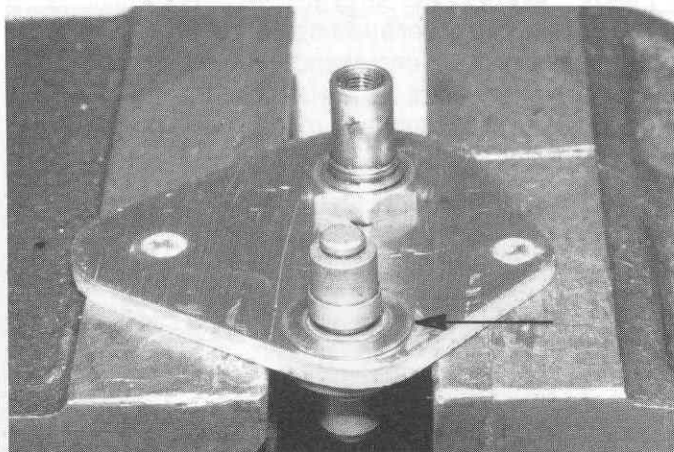

Fig. 33
□ **Fig. 33** Turn the plate over and take the flat steel washer and slip it over the pivot as shown by the arrow.